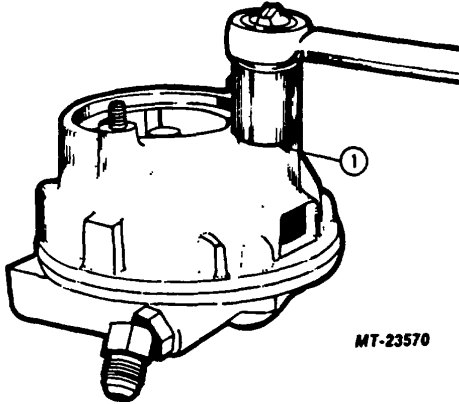

Fig. 13 Remove Valve Cop
5. Loosen but do not remove flow control valve cap, Figure 13.